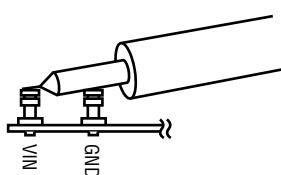

Figure 2. Measuring Input or Output Ripple
**NOTE.** When measuring the input or output voltage ripple, care must be taken to avoid a long ground lead on the oscilloscope probe. Measure the output (or input) voltage ripple by touching the probe tip and probe ground directly across the +Vout and -Vout (or +Vin and -Vin) terminals or input/output capacitors. See Figure 2 for proper scope probe technique.